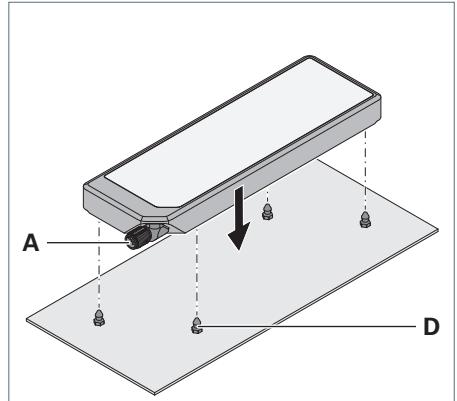
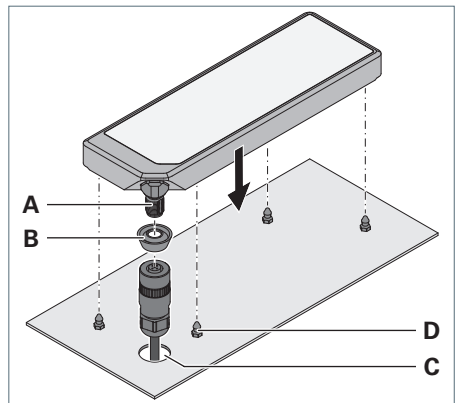

Fig. 1: APA – Plug-in connection on the front side of the machine wall.
Fig. 2: APA – Plug-in connection on the rear side.
- Plug-in connection on the front side of the machine wall, see Fig. 1
- Plug-in connection on the rear side, see Fig. 2
- **Only** for plug-in connection on the rear side: The bore **C**  $\varnothing$  21 mm for the plug has been drilled, see Fig. 2.
- ▶ Apply a suitable threadlocker to the supplied screw nipples **D**, see Fig. 1 and see Fig. 2.
- ▶ Screw the screw nipples **D** into the prepared bores in the machine wall, see Fig. 1 and see Fig. 2.
- ▶ **Only** for rear plug-in connection (position 3.2): Slide the supplied sealing ring **B** over the plug, see Fig. 2.
- ▶ Press the luminaire onto the nipples until it audibly engages see Fig. 1 and see Fig. 2.